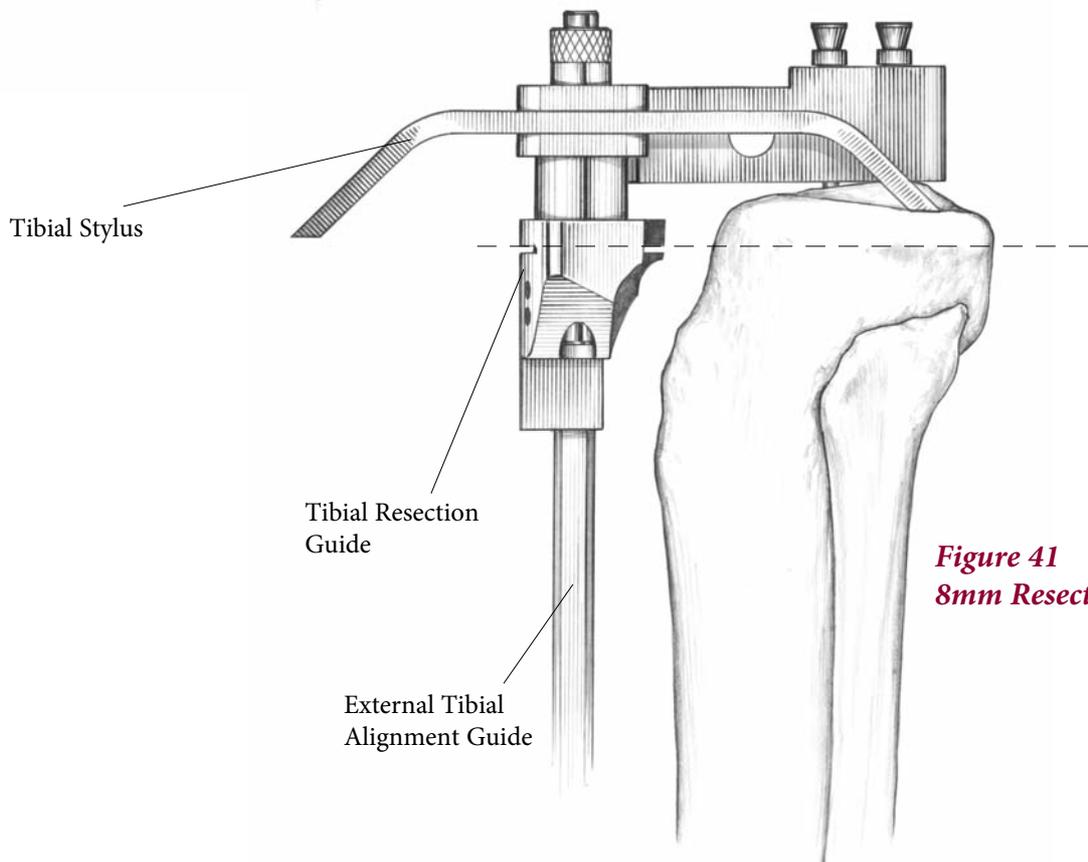

Figure 41
- ▶ The 8mm setting will allow for a resection of 8mm of bone below the point of the stylus (**Figure 41**).